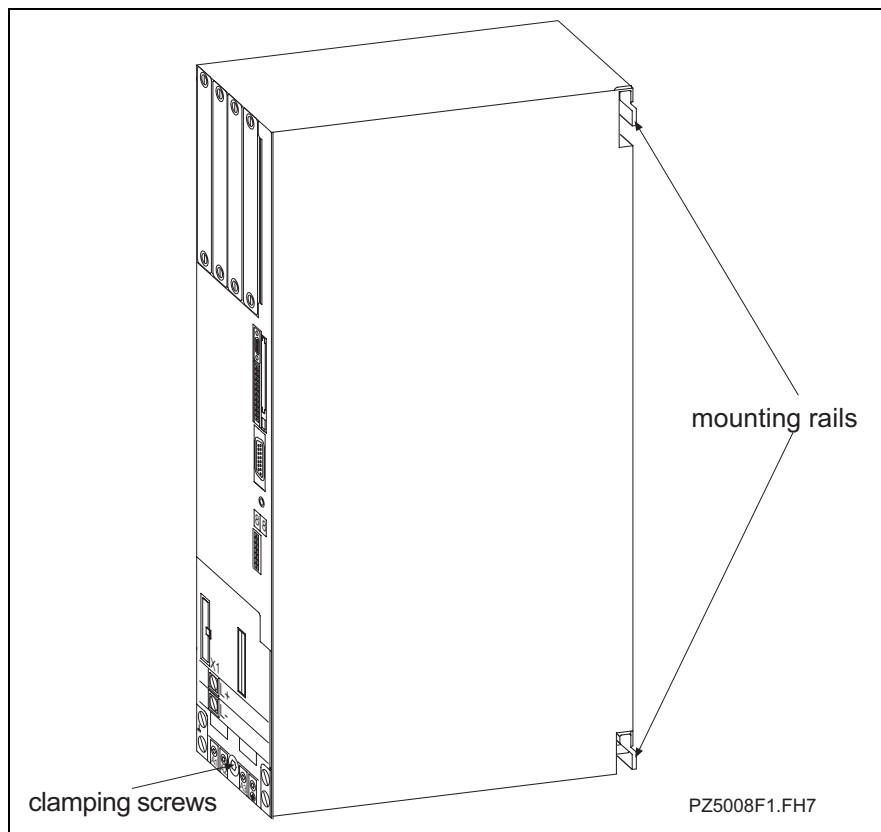

Fig. 8-3: Mounting the drive controller
3. Tighten clamping screw (see Fig. 8-3).